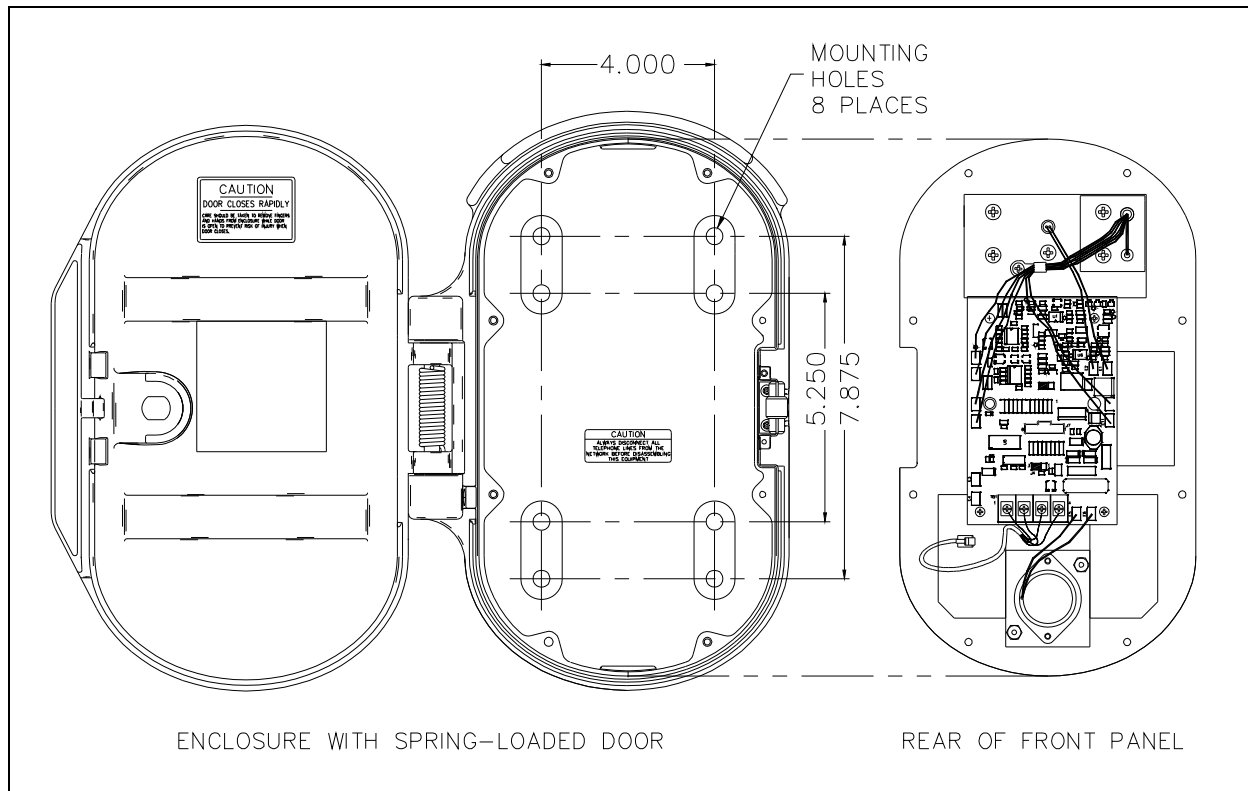

Figure 5. Model 227-001 Outline and Mounting Drawing
2. Determine which hole pattern to use for mounting (see Figure 5).